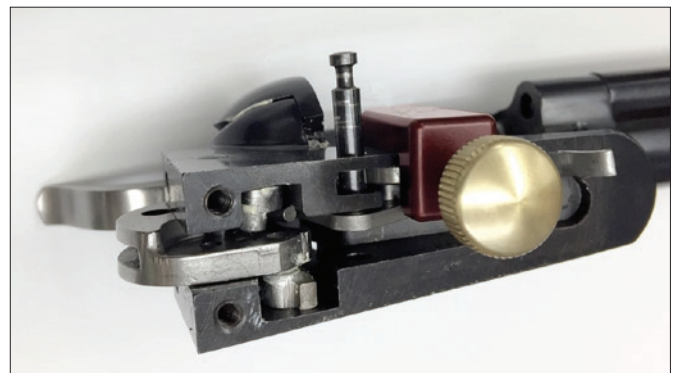

Fig. 1
4. Tighten brass thumb wheel until the spring moves away from the indent in the bolt/trigger pin. Remove pin by pushing it toward the loading-gate side of frame. (See Fig. 1)
4. Snug brass thumb wheel until spring is depressed far enough to allow entry of pin over the spring (Fig. 1). Once pin passes over spring and into next hole in frame, remove the **SpringKeeper**.